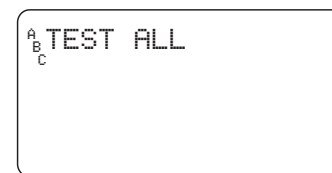

Figure 16: Display – “Test Cycle” selected
2. Press the **MANUAL** button once [See Figure 16]